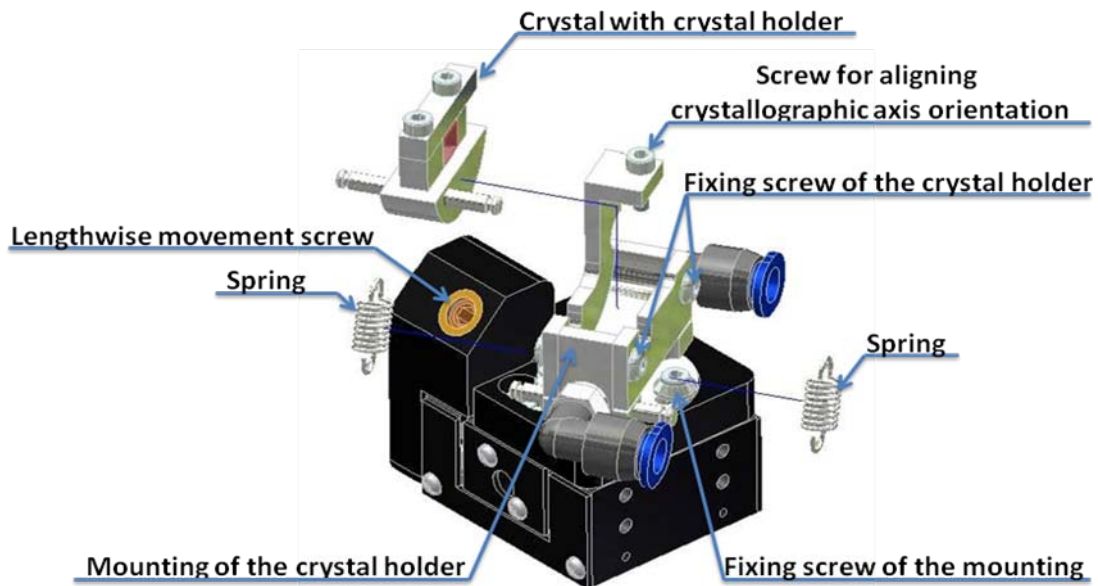

Fig. 8 Crystal mount
11. Remove the crystal with the crystal holder **Fig. 8**
- Align the crystal for a dark field on a target, rotating the crystal holder around the optical axis using the screw for aligning crystallographic axis orientation (see **Fig. 8**).